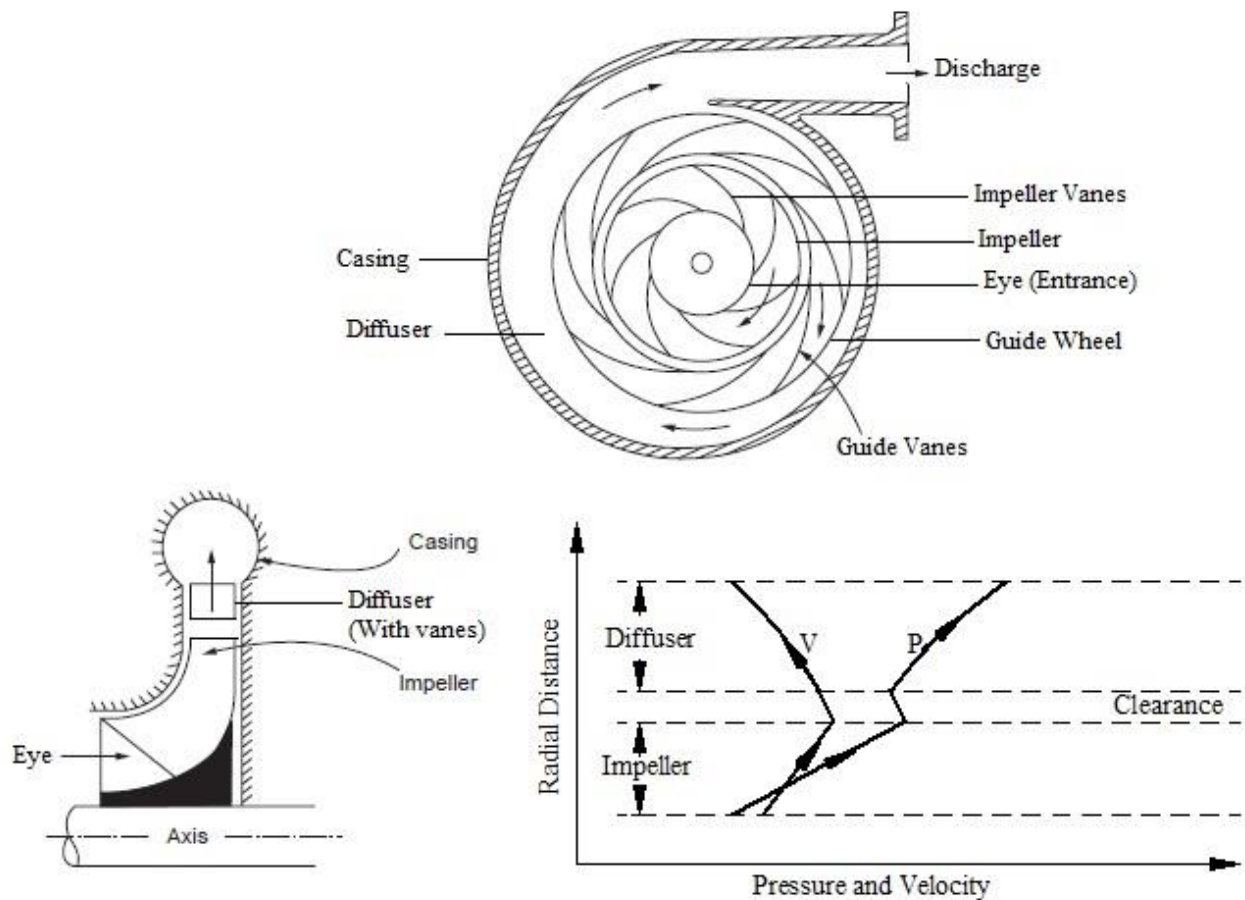

Fig. 7.1 Pressure and velocity diagram for centrifugal compressor
**Answer:** The principal components are the impeller and the diffuser. When the impeller is rotating at high speed, air is drawn in through the eye of the impeller. The absolute velocity of the inflow air is axial. The air then flows radially through the impeller passages due to centrifugal force. The total mechanical energy driving the compressor is transmitted to the fluid stream in the impeller where it is converted into kinetic energy, pressure and heat due to friction. The function of the diffuser is to convert the kinetic energy of air that leaving the impeller into pressure. The air leaving the diffuser is collected in a spiral casing from which it is discharged from compressor. The pressure and velocity variation across the centrifugal compressor is shown in figure 7.1.